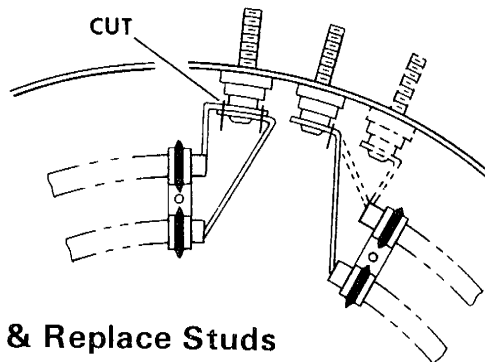

Figure 2 - Cut Coils & Replace Studs
1. Cut both ends of the defective coil at the terminals, Figure 2.